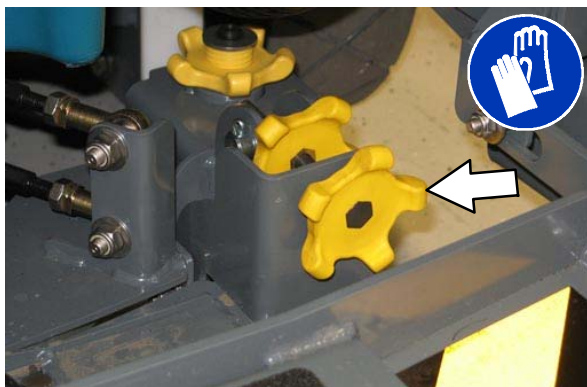

FIG. 12
5. Turn the squeegee tilt adjust knob counter-clockwise to decrease the deflection at the ends of the squeegee blade. (Fig. 12)